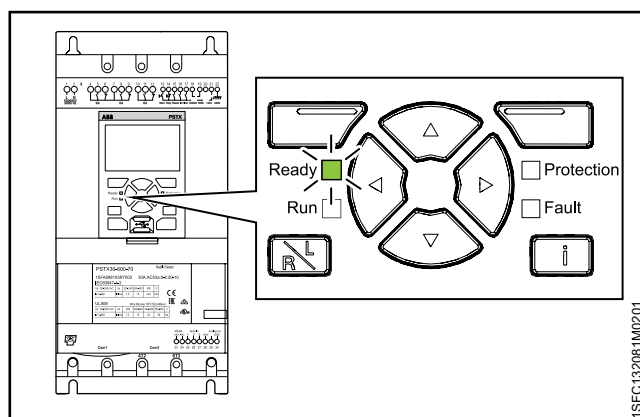

Figure 2.7
10. The green "Ready" LED on the HMI flashes, see **Figure 2.7**.